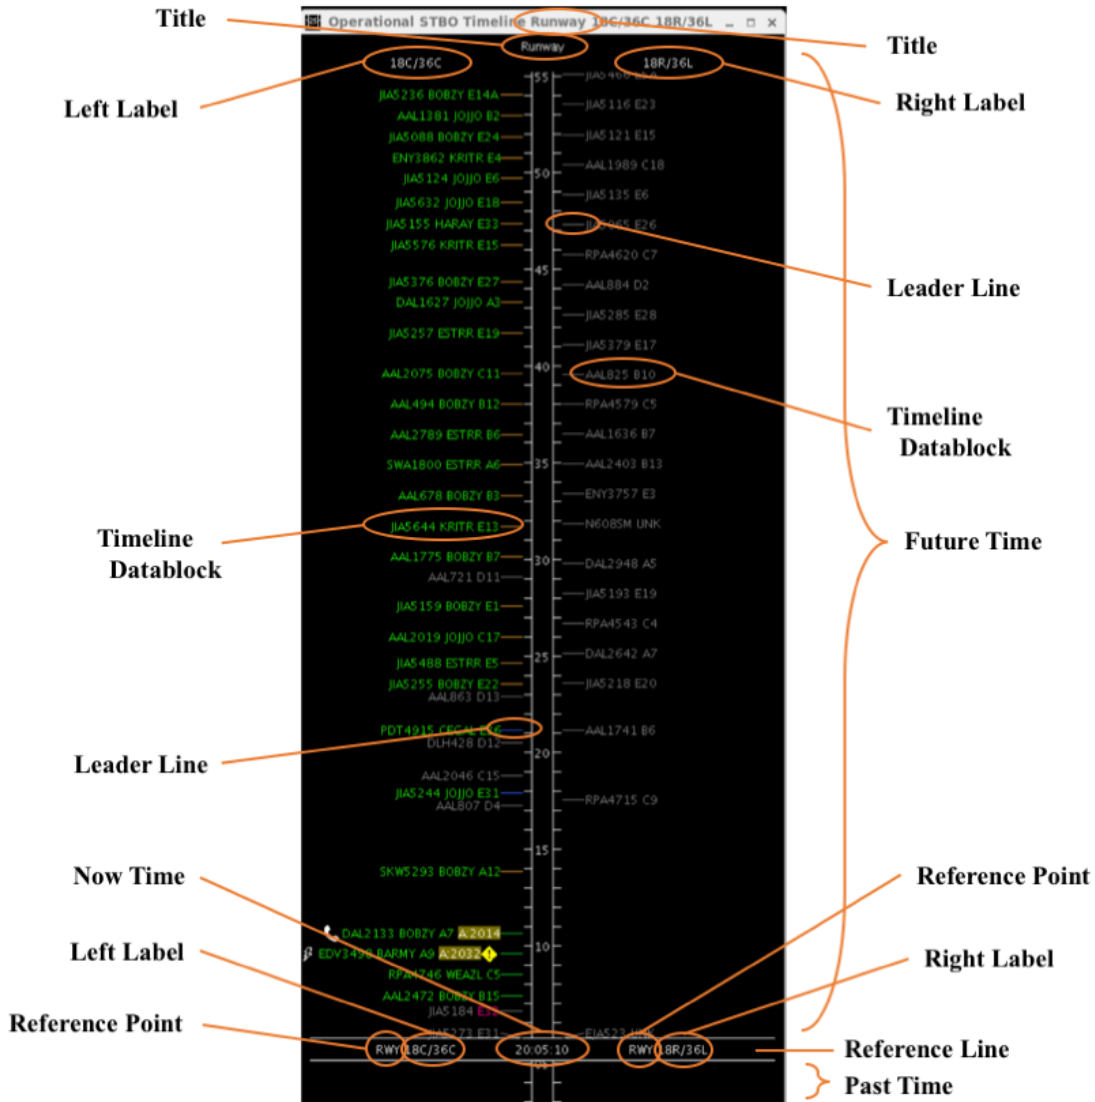

Figure 4. The STBO Client Timeline.
The Timeline (Figure 4) is set up to display flight location, reference labels (e.g., “18C/36C”) at the top and bottom of the display, the reference point (e.g., “RWY” at the bottom), the title at the top of the Timeline, and the Now time. The Timeline also provides information about arrivals, departures, TMIs, runway assignments and changes for operational necessity, gate conflicts, and pushback and taxi status.
**Step 2:** Then click the “Ok” button. When the change is applied, the title on the top of the window will change (Figure 4).
**Step 2:** Then click the "Ok" button. When the change is applied, the right labels at the top of the Timeline (Figure 4) and at the bottom on the reference line will have changed.
The reference point is the point from which flights are scheduled or predicted on the Timeline. For example, if a flight is 10 minutes away from the Now time on the Timeline (Figure 4), then the flight is 10 minutes away from reaching the reference point. If the reference point is a runway, the flight is 10 minutes away from taking off on the runway; if the reference point is the spot, the flight is 10 minutes away from reaching the spot.